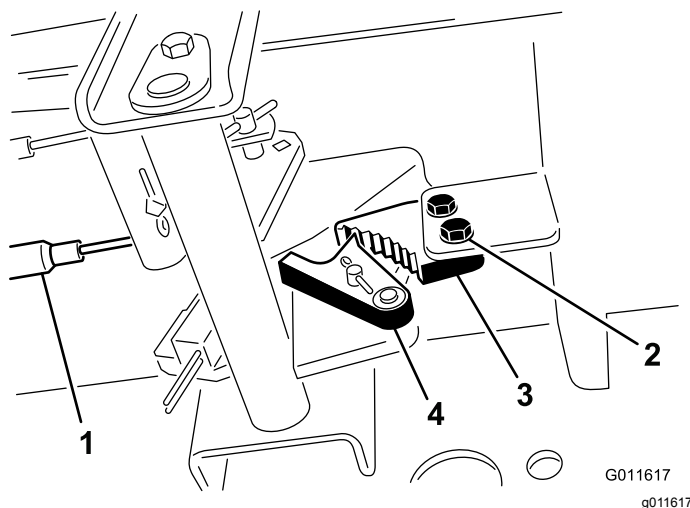

Figure 84
1. Loosen the 2 screws securing the parking brake pawl to the frame (Figure 84).
2. Press the parking brake pedal forward until the brake detent completely engages on the brake pawl (Figure 84).